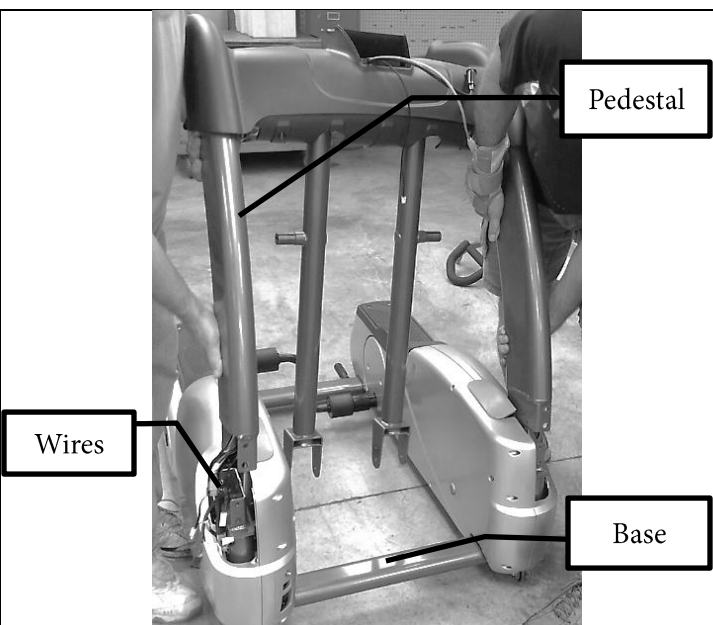

Figure 6
- Use 2 people to slide the Pedestal straight down onto the Base and be careful to not pinch the wires on the right side of the base. Figure 6